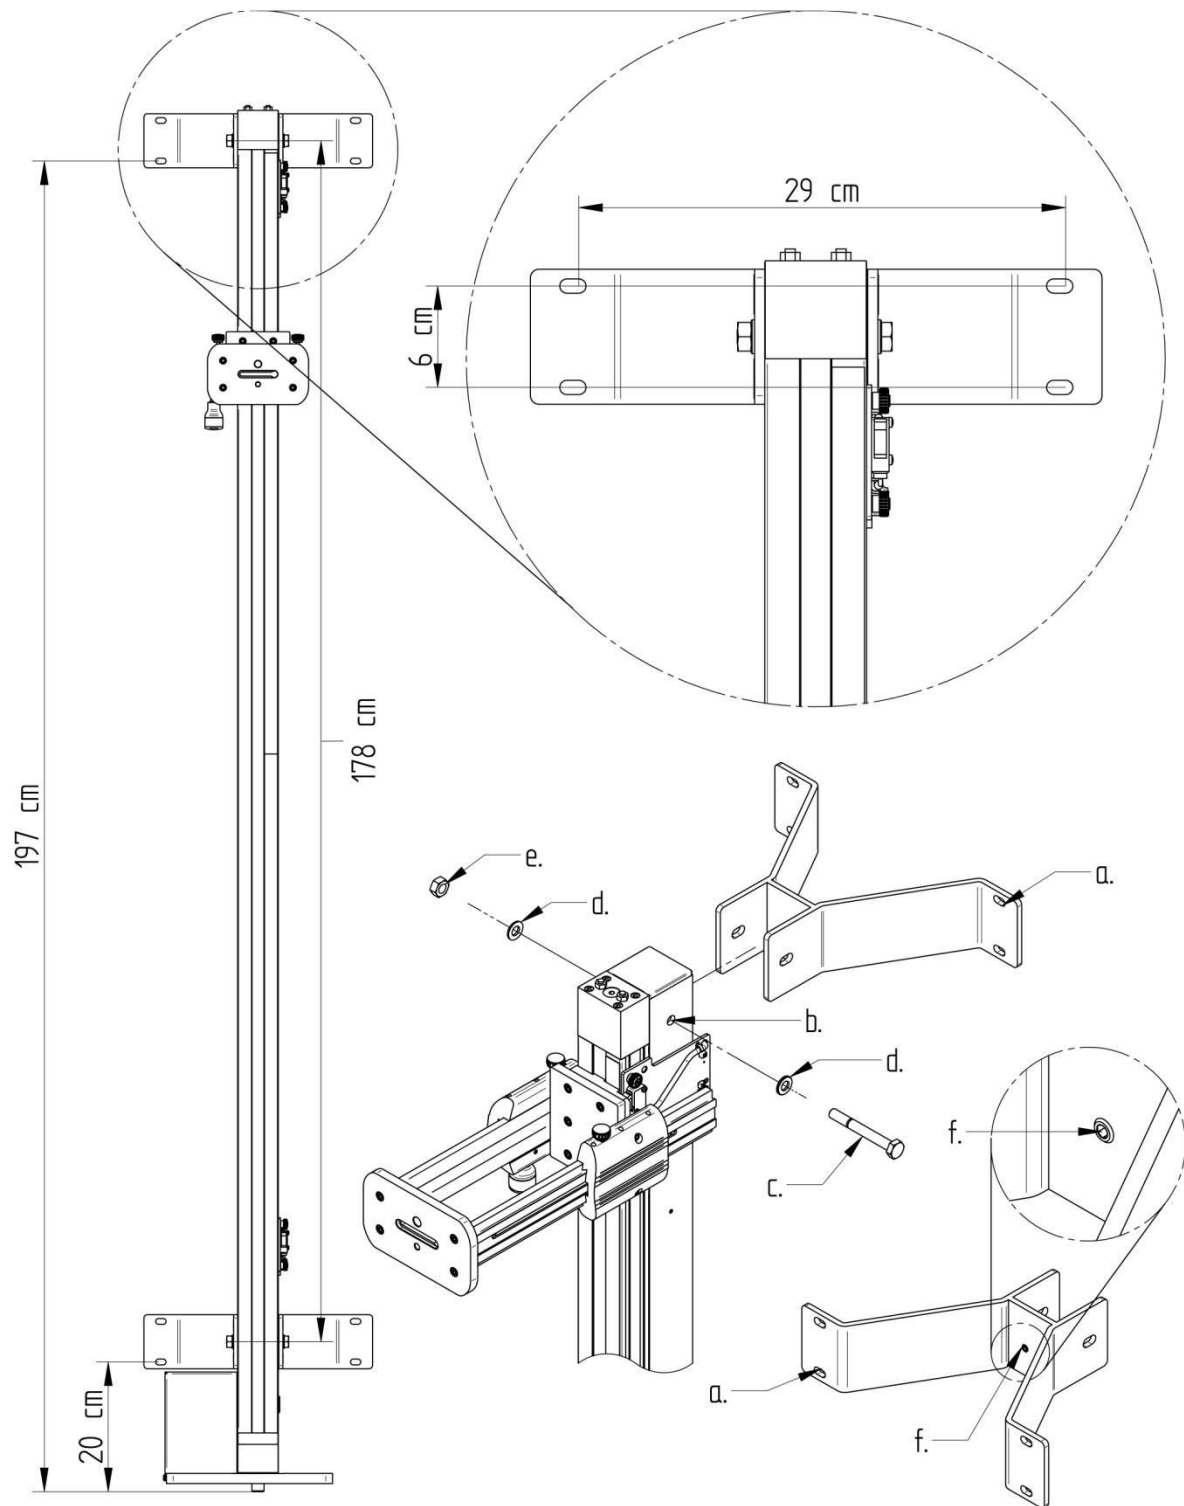

Fig.6: RPS column with wall mounting brackets
Note: when fixing the top bracket to the wall ensure that the distance between bracket and the floor (note figure 6) is at least 197cm.
2. After fixing the top bracket to the wall, please fix the other bracket to the bottom of the column using: note figure 6; bolt (c.), washer (d.) and nut (e.).
3. After fixing the top bracket to the wall, please fix the other bracket to the bottom of the column using: note figure 6; bolt (c.), washer (d.) and nut (e.).
Note: for fine tuning you can adjust the position of the column in the bracket. First slightly loosen the bolt of the bracket (e. in figure 6), then tighten the setscrew (f. in figure 6). When the column is levelled, please tighten bolt (e.).